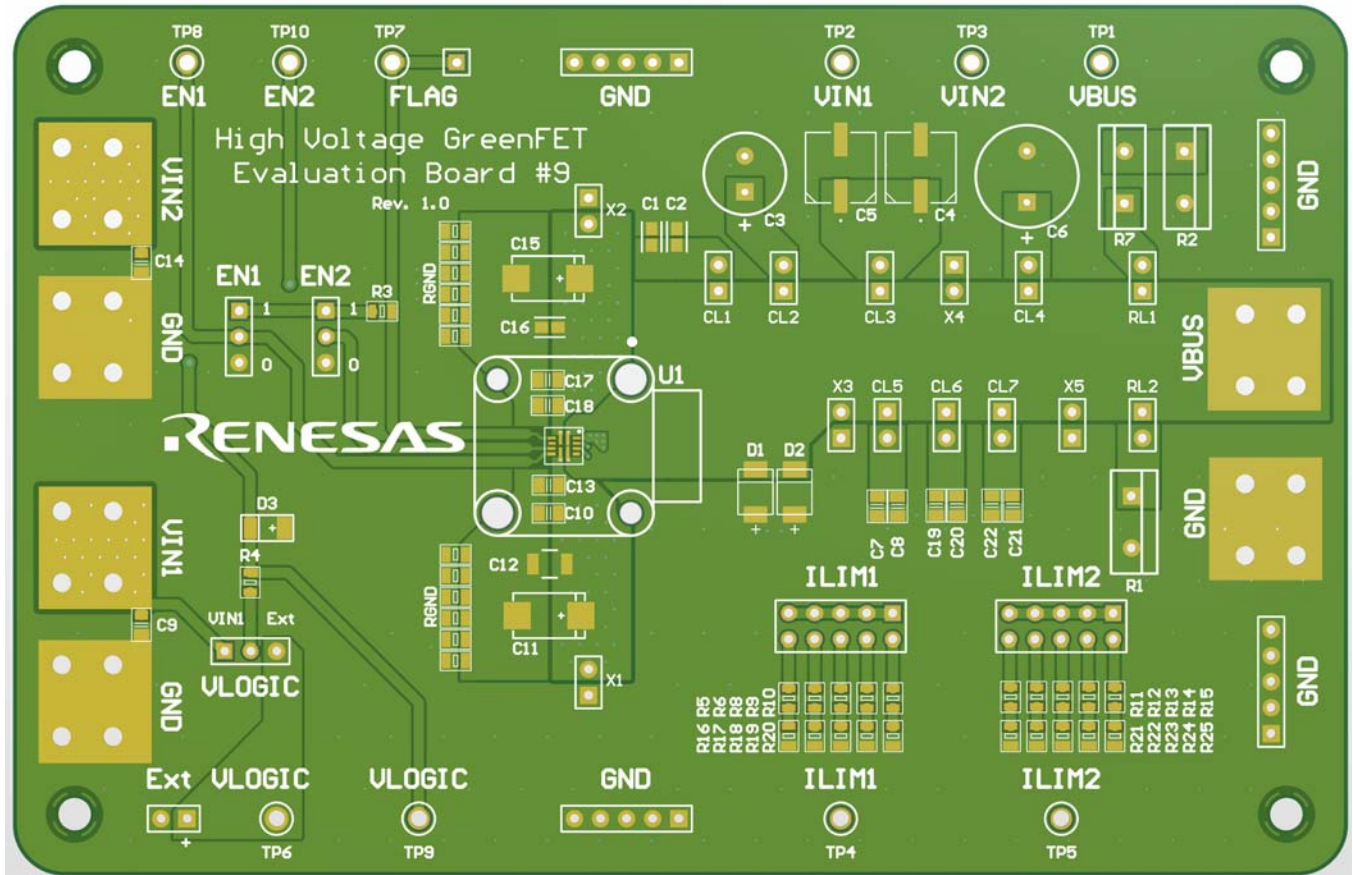

Figure 16. SLG59H1405V Evaluation Board
1. Since the VIN[1,2] and VBUS pins dissipate most of the heat generated during high-load current operation, it is highly recommended to make power traces as short, direct, and wide as possible. A good practice is to make power traces with an absolute minimum widths of 15 mils (0.381 mm) per Ampere. A representative layout, shown in Figure 16, illustrates proper techniques for heat to transfer as efficiently as possible out of the device;
A High Voltage GreenFET Evaluation Board for SLG59H1405V is designed according to the statements above and is illustrated on Figure 16. Please note that evaluation board has VIN[1,2]_Sense and VBUS_Sense pads. They cannot carry high currents and dedicated only for RDS_{ON}[1,2] evaluation.